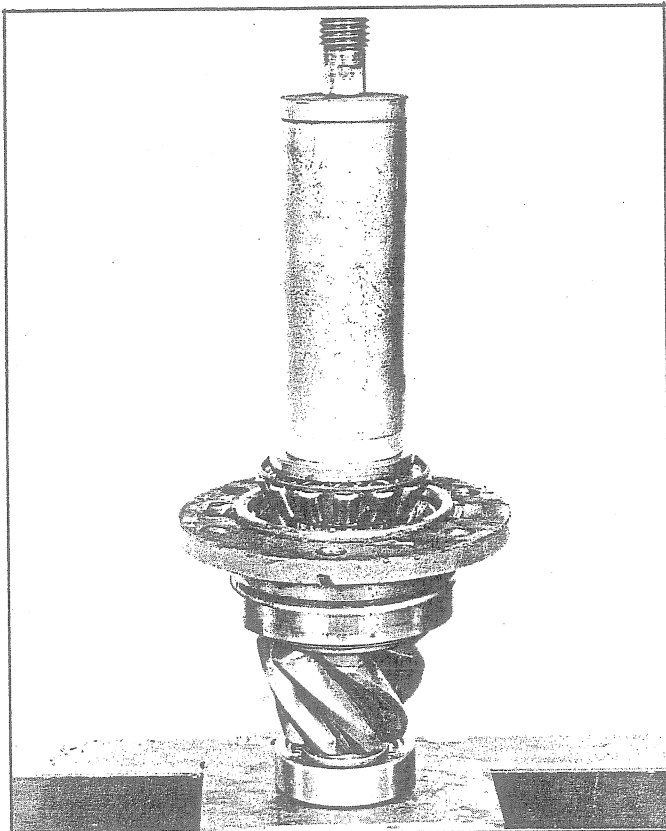

Fig. 58 - Pressing Outer Bearing on Pinion Shaft
5. Press outer bearing onto shaft as shown in Fig. 58.